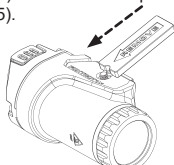

FIGURE 4.
6. Turn the cross bolt head clockwise completely, to expose the groove on the end of the cross bolt. Use the E-clip tool (with the word INSTALL face down) to slide the E-clip onto the groove on the end of the cross bolt (Fig. 4 & 5).